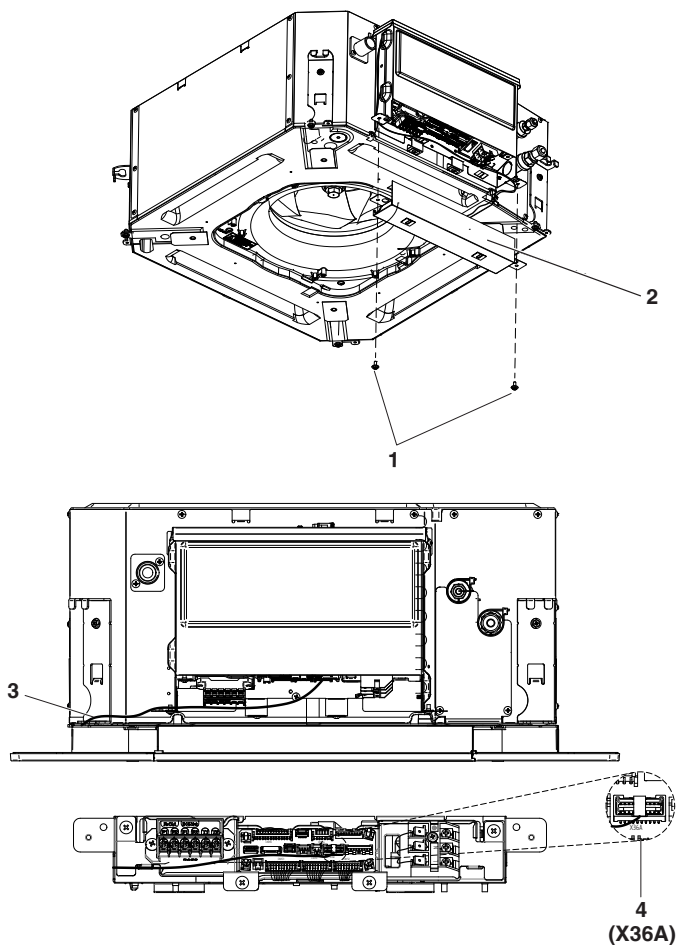

Fig. 6
(2) Wiring of the decoration panel (See Fig. 6)